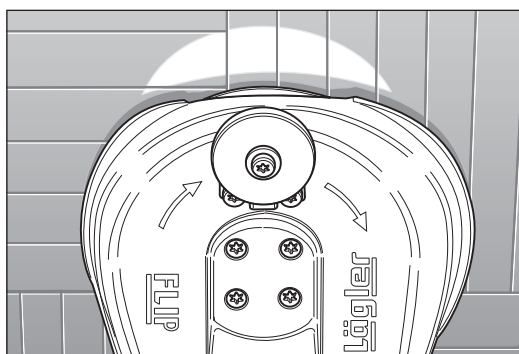

Fig. 54 Proper adjustment of the guide rollers:
- 9 If the machine sands centrally (Fig. 54), the guide rollers are properly adjusted.